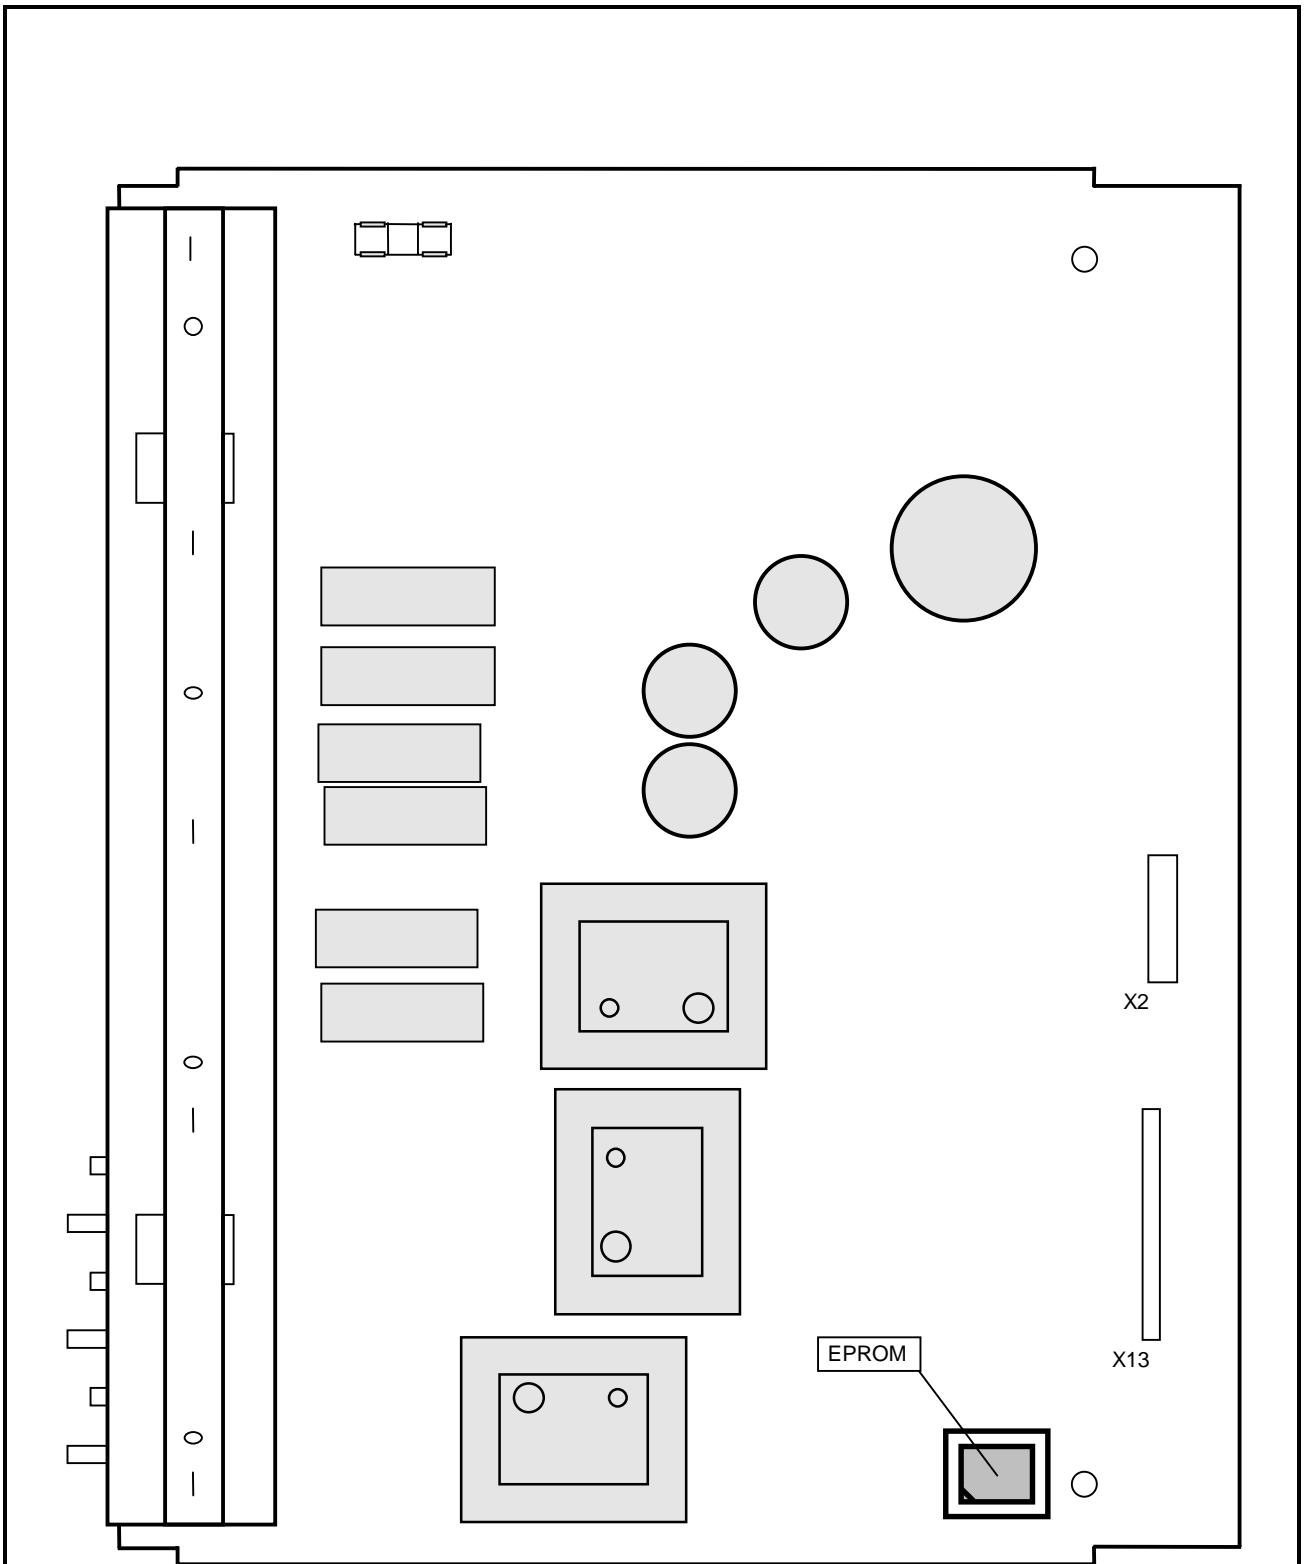

Fig. 2: 7SJ600/1, LES - p-c board, component side and position of EPROM
12. The EPROM, which has to be changed, is now located in the lower right corner of the p-c board (position see fig. 2 on page 7).